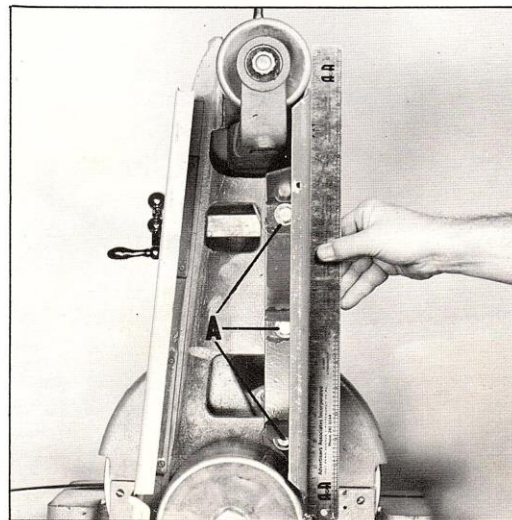

Fig. 7.
2. Remove the three screws (A) Fig. 7, that attach the platen to the machine and remove the platen.
3. When replacing the platen, attach it to the machine with the three screws (A) Fig. 7. Do not tighten the three screws.
4. Using a straight edge, as shown in Fig. 7, adjust the platen so it is $\frac{1}{32}$ " higher than the crown of the drums and tighten the three screws (A).